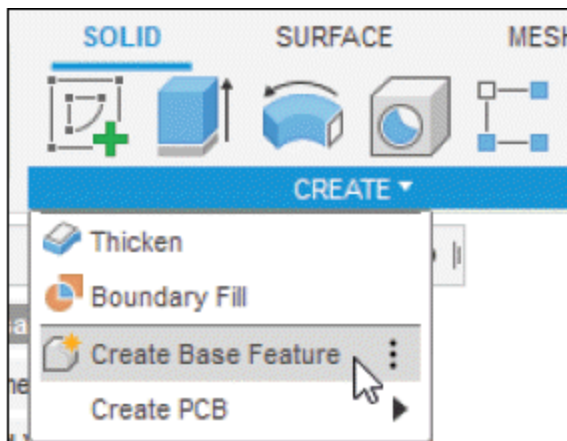

Figure-125. Create Base Feature tool
- Click on **Create Base Feature** tool of **CREATE** drop-down from **Toolbar**; refer to Figure-125. The tools in the **Toolbar** will be same as for **DESIGN** workspace.